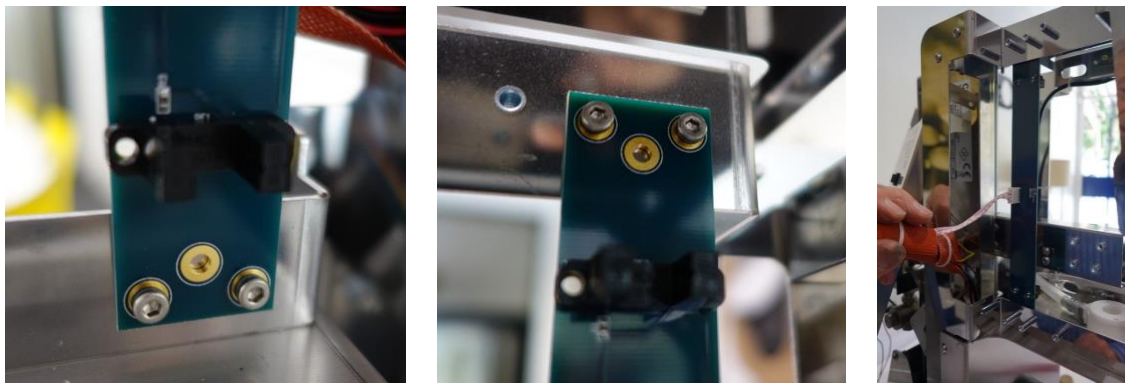

Figure 51: Limit sensor board screws and cable
1. The limit sensor board is secured to the framework via 4 x M3 screws, see Figure 51.